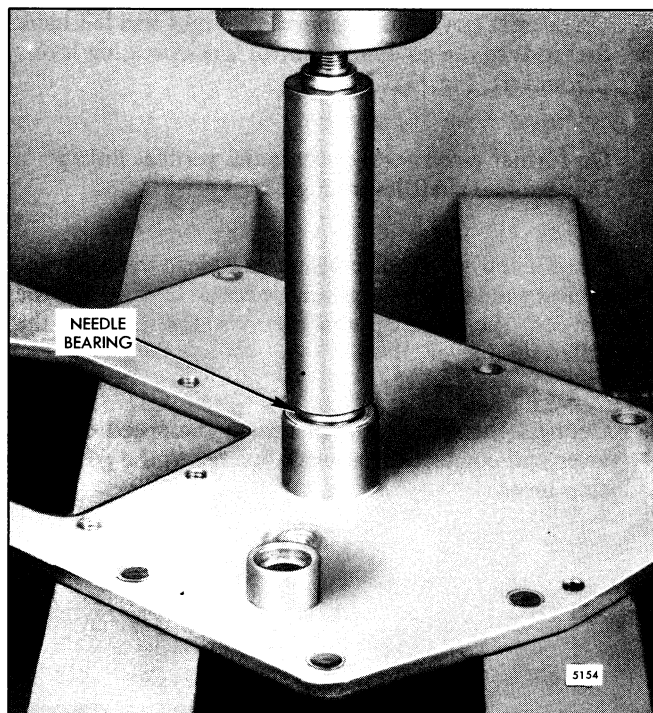

Fig. 18 - Installing Needle Bearings In Governor Cover using Tool J 21068
- a. Place the governor cover on the bed of an arbor press. Start the upper bearing straight into the bearing bore of the cover with the numbered side of the bearing up. Press the bearing into the cover using installer J 21068 (Fig. 18).
- e. On former governors, connect the differential lever connecting rod (23) to the terminal lever (25).
- f. On current governors, install the differential lever connecting rod (23) to the operating lever (61).
- g. Connect the differential lever (21) to the differential lever connecting rod (23).
- h. Secure the differential lever (21) to the operating shaft lever (18), using a plain washer (20) and spring retainer (19).
- i. On current governors, install the starting aid screw (62) in the gap adjusting screw (17) and thread the assembly into the operating shaft lever (18). On a former governor, thread the locknut (16) on the gap adjusting screw (17) and thread the assembly into the operating shaft lever (18).